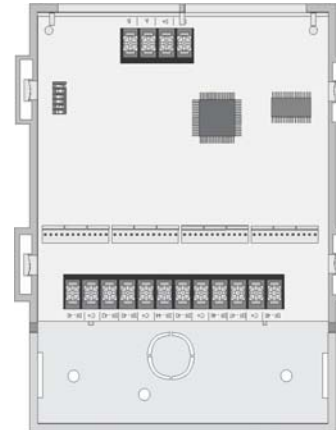

Figure 1 TR-5824 Circuit Board and the Plastic Base
4. Reinstall the circuit board in the plastic base. See Figure 1.